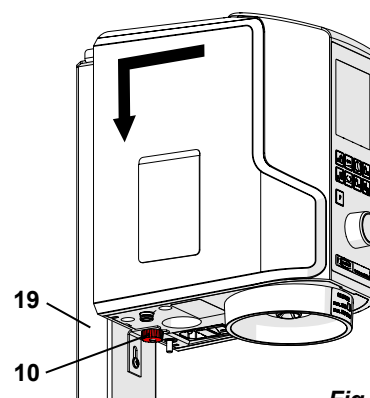

Fig. 3
- ⇒ Secure the device by tightening the knurled nut (10, Fig. 3).